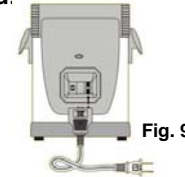

Fig. 9
1. The male receptacle for the power cord is permanently attached to the rear of the control panel. (Fig. 9)